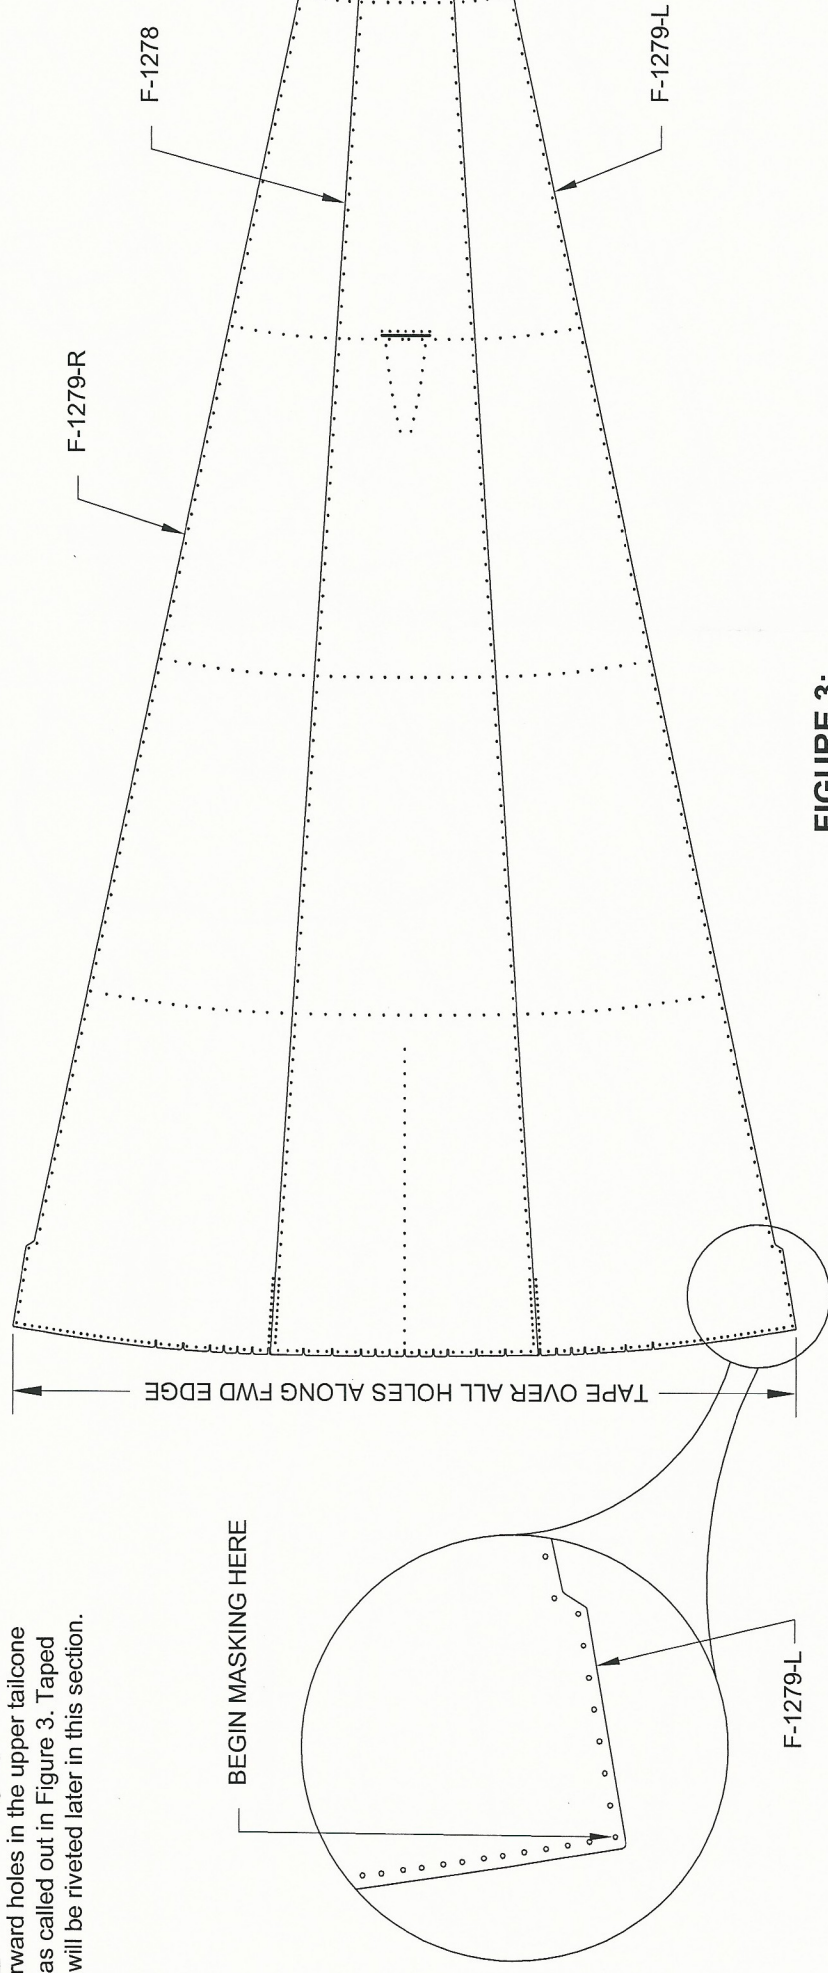

FIGURE 3:
Step 4: Place masking tape over all of the forward holes in the upper tailcone skins as called out in Figure 3. Taped holes will be riveted later in this section.